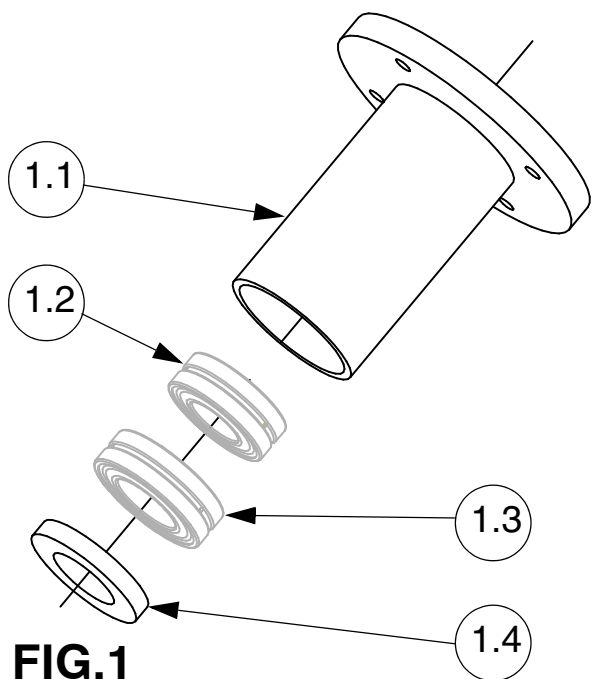
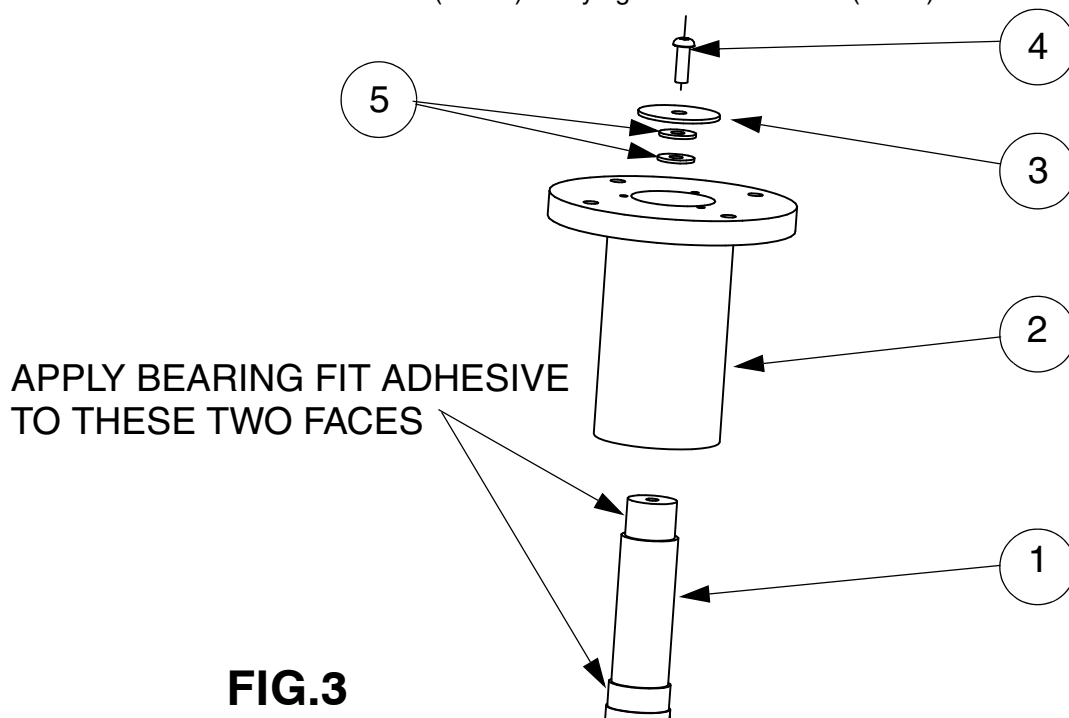

FIG.1
FIG.3
- iii) Undo the M10 x 30 Resistorx bolt (item 4) in the centre of the Shaft & Base Fabrication (item 1) and remove the Holding Washer (item 3) and Heavy Duty Washer (item 5). (FIG.3).
- iv) Slide the Bearing Assembly (item 2) off the Shaft & Base Fabrication (item 1).
- v) Remove the Oil Seal (item 1.4) from the Bearing Housing (item 1.1). Inspect for signs of wear and replace if necessary. (FIG.1 & 2).
- vi) Using a suitable bearing extractor, remove the Spherical Roller Bearing (item 1.3) from the Bearing Housing (item 1.1). Inspect for signs of wear and replace if necessary.
- vii) Using a suitable bearing extractor, remove the Spherical Roller Bearing (item 1.2) from the Bearing Housing (item 1.1). Inspect for signs of wear and replace if necessary. (FIG.1 & 2).
- viii) Press the Spherical Roller Bearing (item 1.2) into the Bearing Housing (item 1.1) ensuring it is fully in position. (FIG.1 & 2)
- ix) Press the Spherical Roller Bearing (item.1.3) into the Bearing Housing (item 1.1), ensuring it is fully in position. (FIG.1 & 2)
- x) Slide the Oil Seal (item 1.4) into the Bearing Housing (item 1.1), (FIG.1 & 2).
NOTE: Ensure the oil seal is the correct way up. (FIG.1 & 2)
- xi) Apply a suitable Bearing Fit Adhesive (Loctite 641) to the mounting diameters on the Shaft for the two bearings and slide the Bearing Assembly (item 2) over Shaft. (FIG.3).
- xii) Secure the Bearing Assembly (item 2) in place with the Holding Washer (item 3), Heavy Duty Washer (item 5) and a Resistorx M10 x 30 bolt (item 4). Fully tighten to 20-25 Nm. (FIG.3).